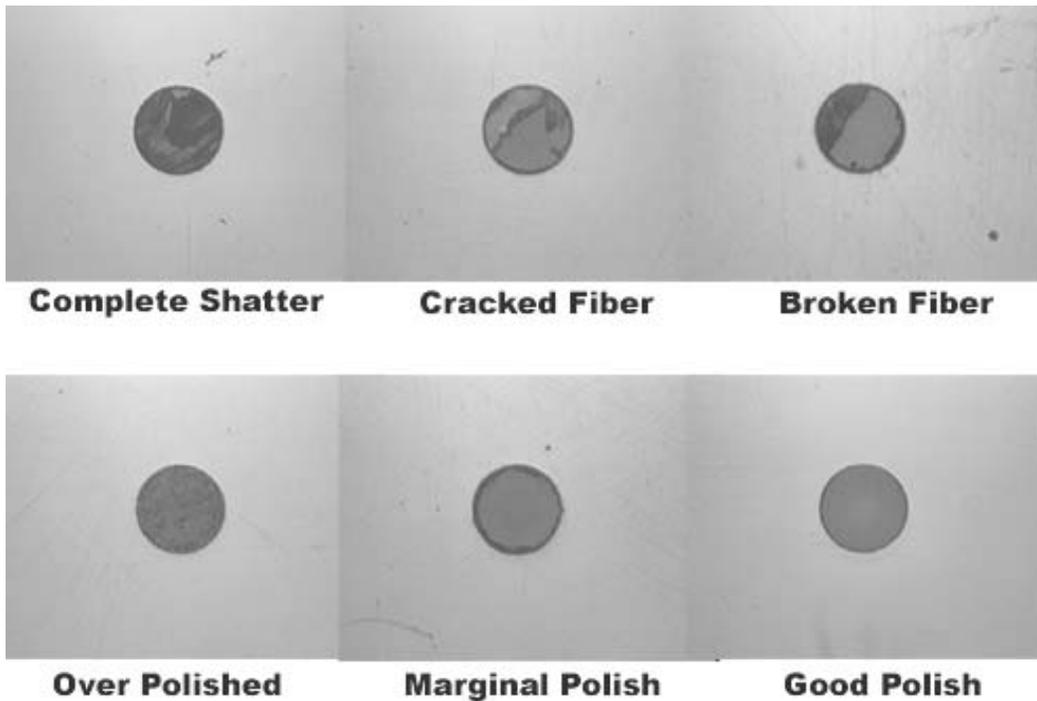

Figure 7-42 – Visual Connector End Face Inspection at 200x
- Step 1 - Examine the terminus with the optical microscope to ensure that the optical surface is smooth and free of scratches, pits, chips, and fractures. If any defects are present, repeat the polish with the 0.1 μm paper or re-terminate the fiber. See Figure 7-42.